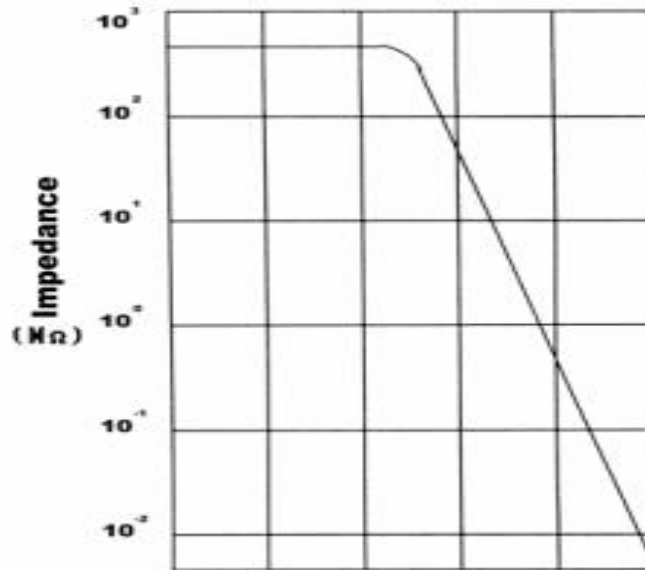

Figure 2. Characteristic of HOS201.
The first section is an oscillator consisted of U5 and U6. The U6, Wein oscillator, generates a sine wave. The U5 acts as an amplitude limiter to limit the sine wave at 250 Hz and 0.5 Vrms. The second section serves amplification, filtering, and rectification. It consists of U4, C1, and CR2. The magnitude of negative output is proportional to sensed humidity. The R17 is for gain adjustment and the R14 is for zero level calibration. Figure 2 shows the characteristic of humidity sensor.
5. Compare the curve in Step 4 to the curve in Figure 2 and explain the difference.